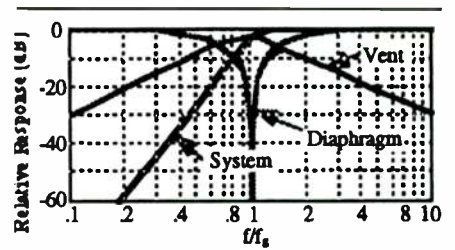

FIGURE 16: Frequency response of vented enclosure.
Note, however, equations (12) through (15) assume a perfect enclosure: one without losses. The driver diaphragm response shows a null at the vented-box resonant frequency. The action of the driver and vent above and below the resonant frequency is shown in the idealized response curves of Fig. 16. The depth of the null at f/f_S is proportional to the total enclosure loss, Q_B .